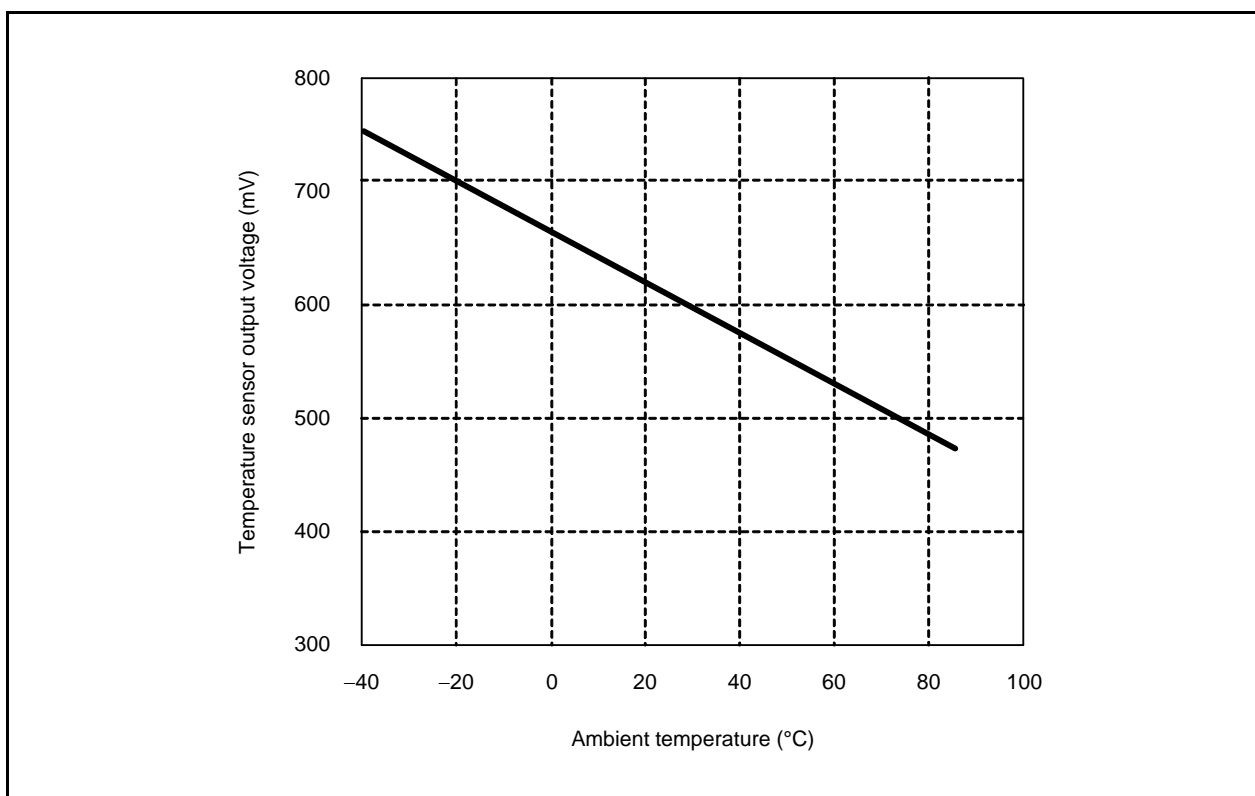

Figure 25.10 Temperature Characteristics of Temperature Sensor Output Voltage When Gain 1 is Selected (Typical Characteristics)
Table 25.9 lists the Temperature Sensor Performance, and Figure 25.10 shows the Temperature Characteristics of Temperature Sensor Output Voltage When Gain 1 is Selected (Typical Characteristics).
- The A/D conversion result of the temperature sensor output voltage will include fluctuations in the output voltage and errors in the A/D converter absolute accuracy. This may cause discrepancies in the Temperature Sensor Performance (refer to Table 25.9) or the Temperature Characteristics of Temperature Sensor Output Voltage When Gain 1 is Selected (Typical Characteristics) (refer to Figure 25.10).